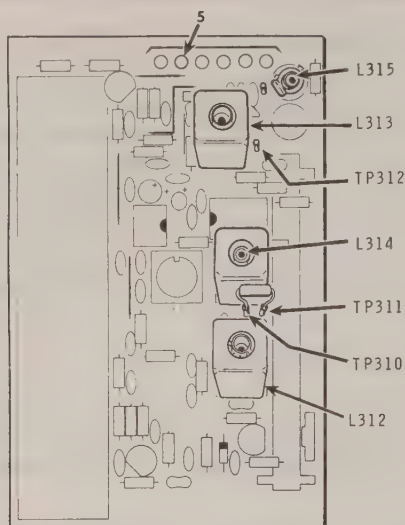

Figure 1-30
Refer to Figure 1-30.
- () Adjust the cores of coils L312 and L313 for the best sound. See Figure 1-30.
Refer to Figure 1-30 for the following steps.